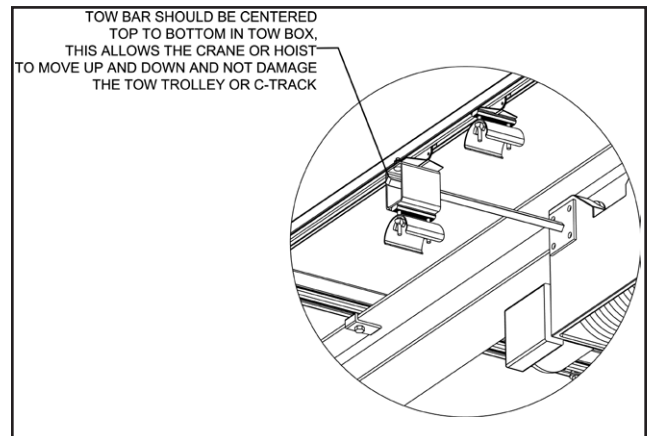

Figure 11-2
1. Install the tow bar on the crane or system that is to be electrified. Center and align tow bar with the Tow Trolley. See **Figure 11-2**.